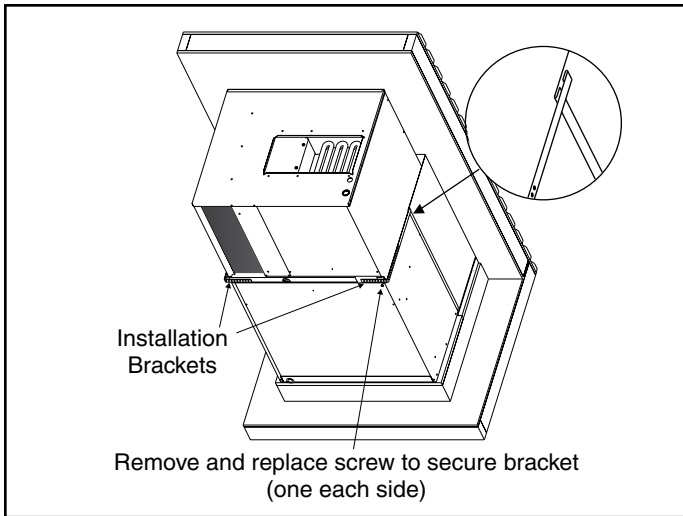

Figure 4. Securing Unit
- Use the two installation brackets to secure the unit to the wall sleeve (see Figure 4). The units are shipped with the brackets placed in the return air compartment. Hook each bracket into the front edge of the wall sleeve side. Position the bracket so it can be bent around the front corner of the unit. Remove one of the two screws in that position on the unit. Line up one of the holes in the installation bracket with the screw hole and attach